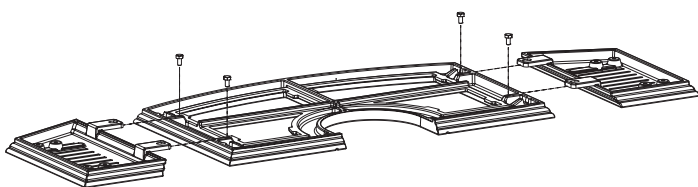

Figure 22
4. Place left and right side shelves in place shown in Figure 22.
8. Attach side shelf supports one at a time, using two 1/4-20 hex head bolts per support, sliding support flush to casting before fully tightening bolts as shown in Figure 22.
NOTICE: Due to inherent properties of the casting process, non-combustible shims may be required to level accessory side shelves to the casting top. These shims are provided in the form of washers to be used on either side of the bolts. See Figure 22. If accessory shelf angles downward, toward the floor, washer(s) will need to be added to the center side of the bolt. Conversely, if the accessory side shelf angles upward, toward the ceiling, washer(s) will need to be added to the outside of the top casting side of the bolt. See Figure 25.